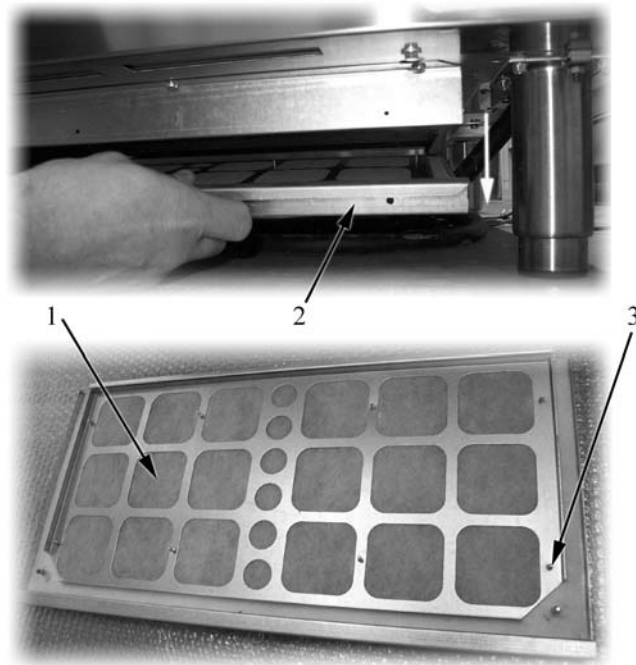

Fig. 4a
- Pull downward the filter fixing frame (item 2 of Fig. 4a);
When the filter is very dirty, replace it by unscrewing the fixing screws (item 3 of Fig. 4a).